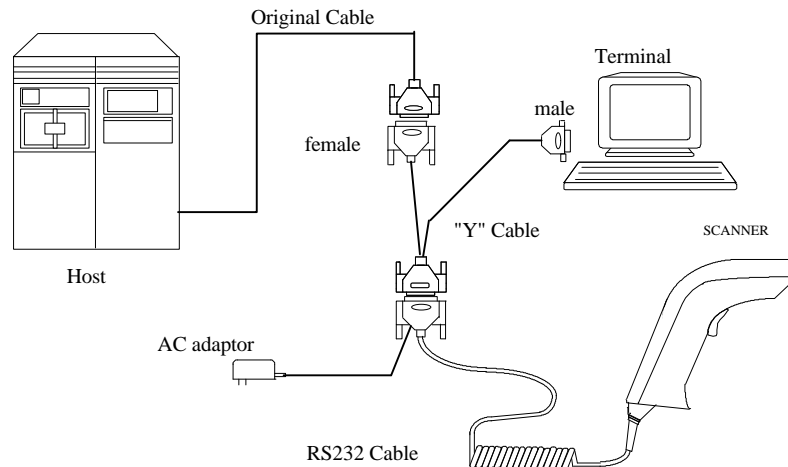

Figure 3. Installing as a Terminal Wedge
To install the scanner as a terminal interface, you need a DB25 RS232 cable, a terminal wedge “Y” cable and an AC adaptor. See Figure 3 for reference.
- 2) Install the interface cable as shown in Figure 3. The “Y” cable provided in Figure 3 is for terminals with female connector on communication port. If there is a male connector on your terminal, you need a converter to change that male to female and another converter to change the female to male on host connector.